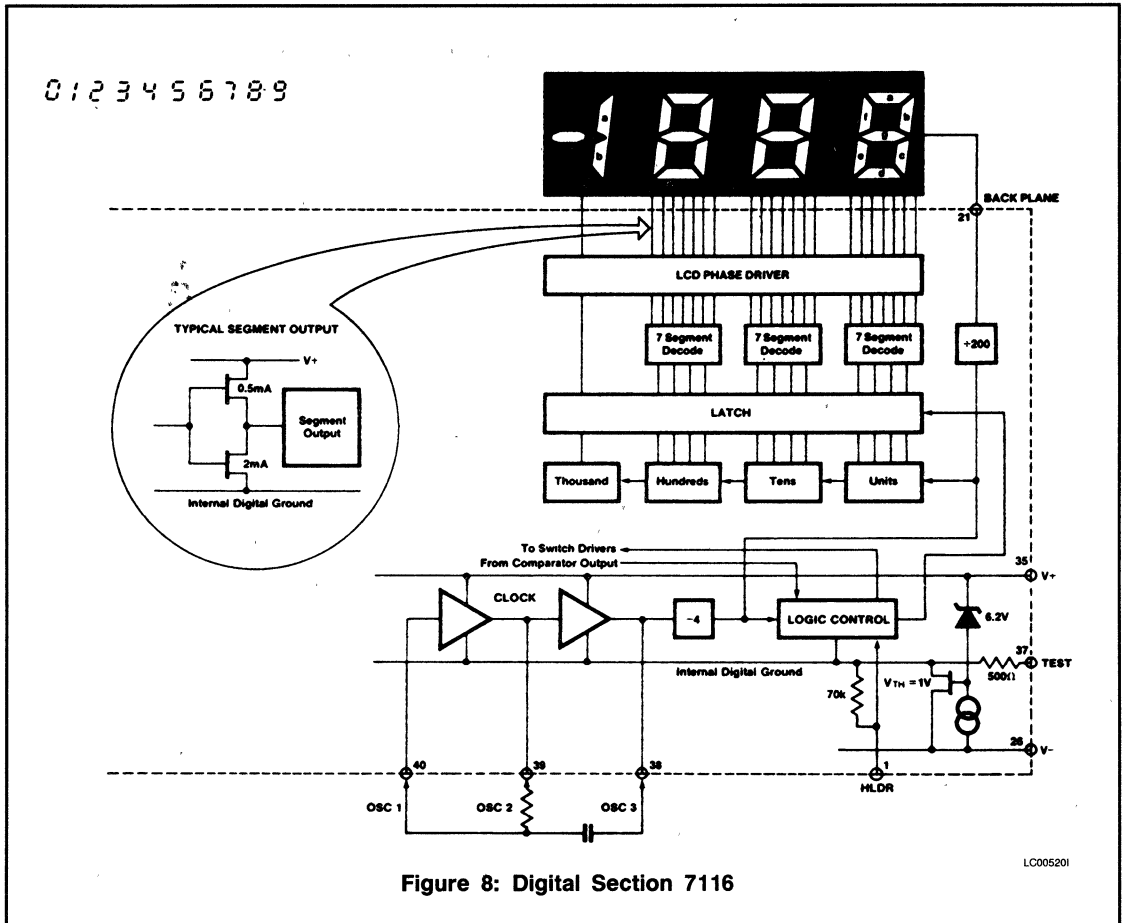

Figure 8: Digital Section 7116
Figures 8 and 9 show the digital section for the 7116 and 7117, respectively. In the 7116, an internal digital ground is generated from a 6 volt Zener diode and a large P channel source follower. This supply is made stiff to absorb the relative large capacitive currents when the back plane (BP) voltage is switched. The BP frequency is the clock frequency divided by 800. For three readings/second this is a 60Hz square wave with a nominal amplitude of 5 volts. The segments are driven at the same frequency and amplitude and are in phase with BP when OFF, but out of phase when ON. In all cases negligible DC voltage exists across the segments.